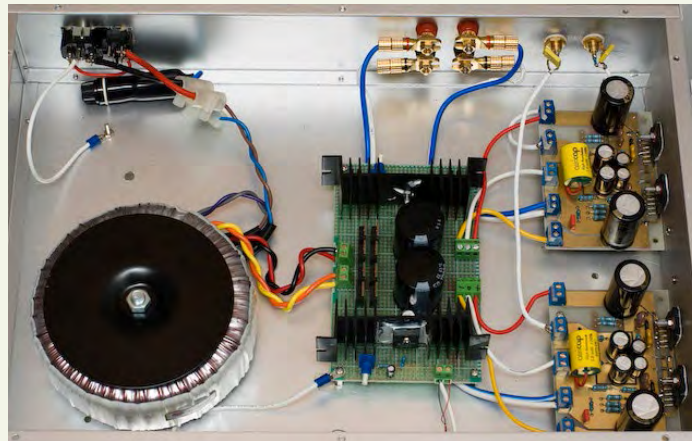

Fig. 7.2: Diagram of Audio Frequency Amplifier
- Study the image in Figure 7.2.